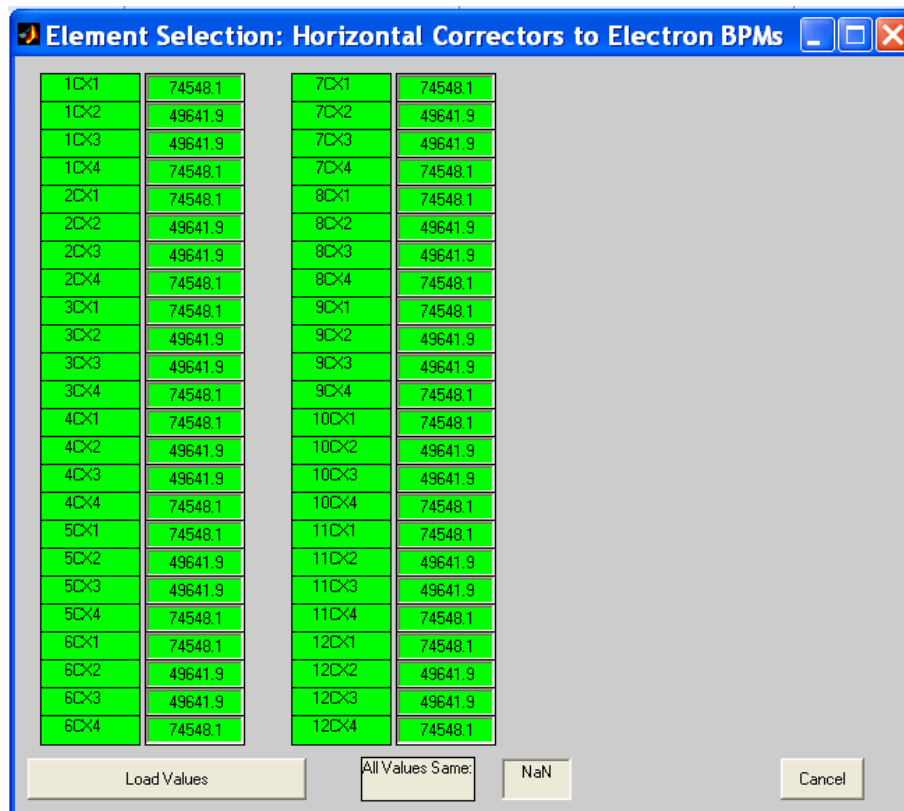

Figure 3.18 Horizontal corrector strengths selection
- **Select Y-Corrector Strengths (BPM):** bring up a screen for the selection of corrector currents for vertical response to BPMs. The layout of the screen is identical to that in Figure 3.18.
- **Select Y-Corrector Strengths (Beamlines):** bring up a screen for the selection of corrector currents for vertical response to beamlines. The layout of the screen is identical to that in Figure 3.18.